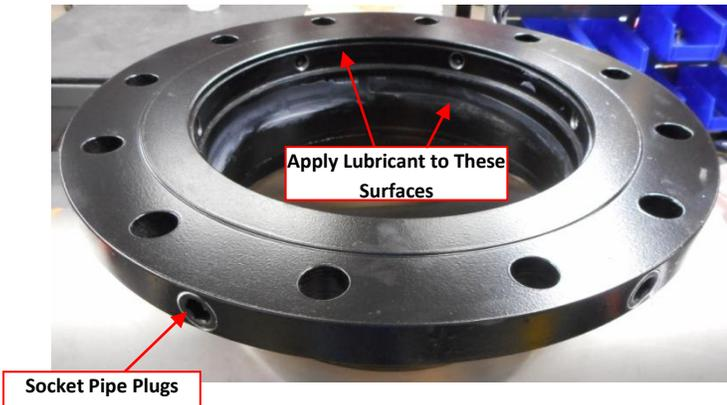

Fig. 1
Step 2. Apply NSF-61 Approved Lubricant to inside bore of Flange. (See Fig 1.)